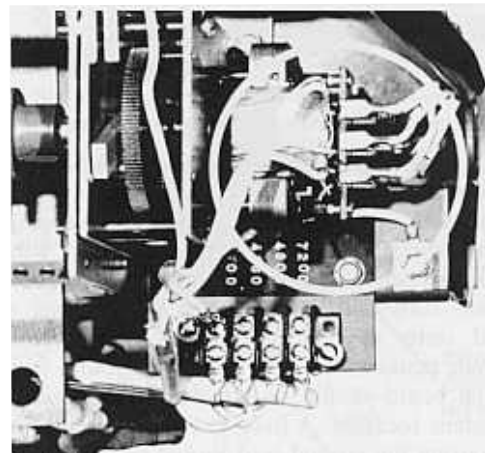

Figure 19
C. Some older model regulators do not have terminals "L" and "G" on the terminal board; but instead have the main motor-coil terminals connected directly to the control winding leads by quick disconnects, as shown on Figure 19. On these units, the control winding leads should be disconnected and grounded, and 120 volts a-c applied as described in step 3B.
4. Disconnect the control winding leads from the terminal board. On older models, that have control winding leads connected directly to the tap changer motor through quick disconnects in the leads, pull these disconnects apart (Figure 19).